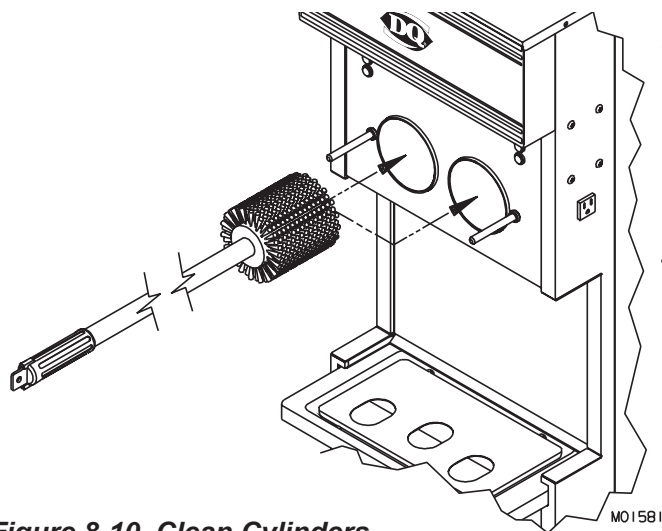

Figure 8-10 Clean Cylinders
- b. the inside of the cylinders including the back wall as shown in figure 8-10.